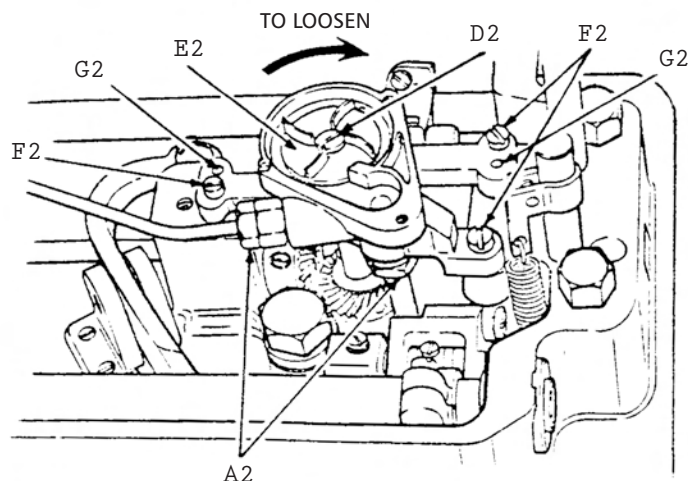

Fig. 18
1. Loosen the two oil pipe clamping sleeve nuts A2, Fig. 18.
4. Remove the locking screw D2, Fig. 18.
5. Remove the impeller E2, by turning it over toward the RIGHT (clockwise) to loosen it, as instructed in Fig. 18.